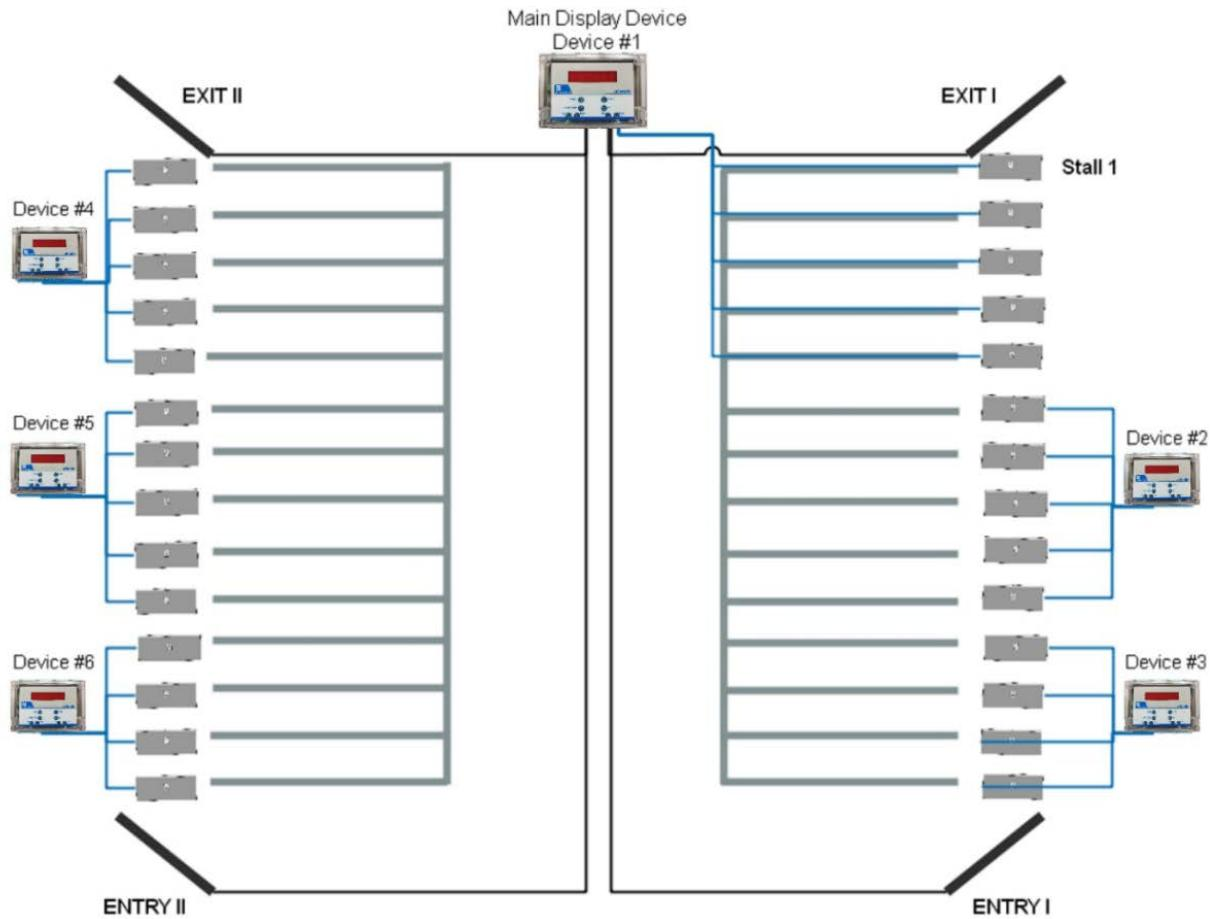

Figure 4 - 2X14 Parlor Layout Device Configuration (Example)
**Example 2 Layout:** In parlors where the number of stalls does not divide equally into groups of 5, and the excess number of stalls on both sides of the parlor exceeds 5 stalls, a device on each side should be installed (see Figure 4).